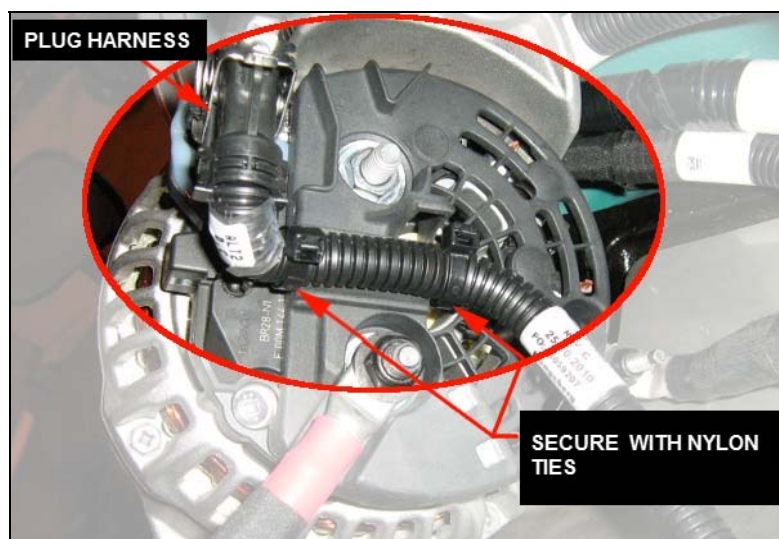

FIGURE 30
18. Plug lower alternator harness onto lower alternator connector and secure using two nylon cable ties #504637 (FIGURE 30).